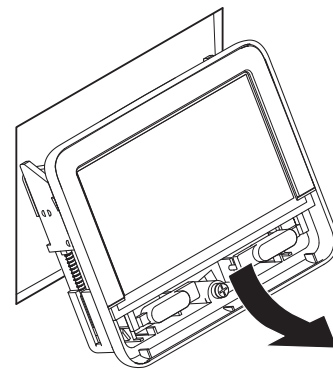

Fig. 5
- Carefully pull the panel about 20 cm forwards out of the installation opening (Fig. 5).